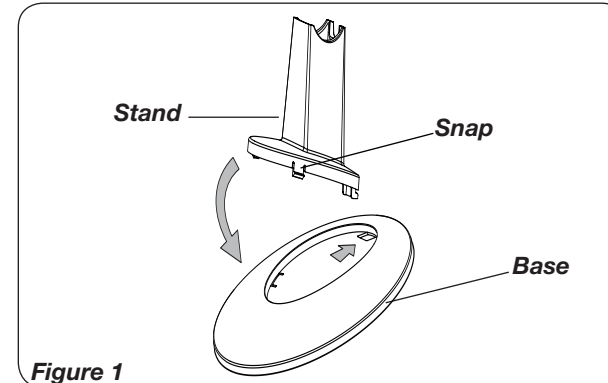

Figure 1
1. Insert stand into base by pressing above the snaps to engage. (Figure 1)